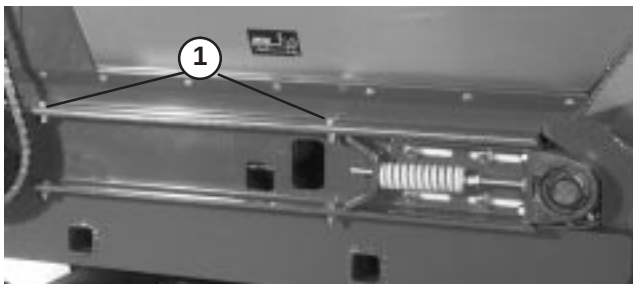

Figure 27
4. Remove (2) capscrews, washers and nut, on each side of machine, securing hopper to slider bed (Fig. 27).